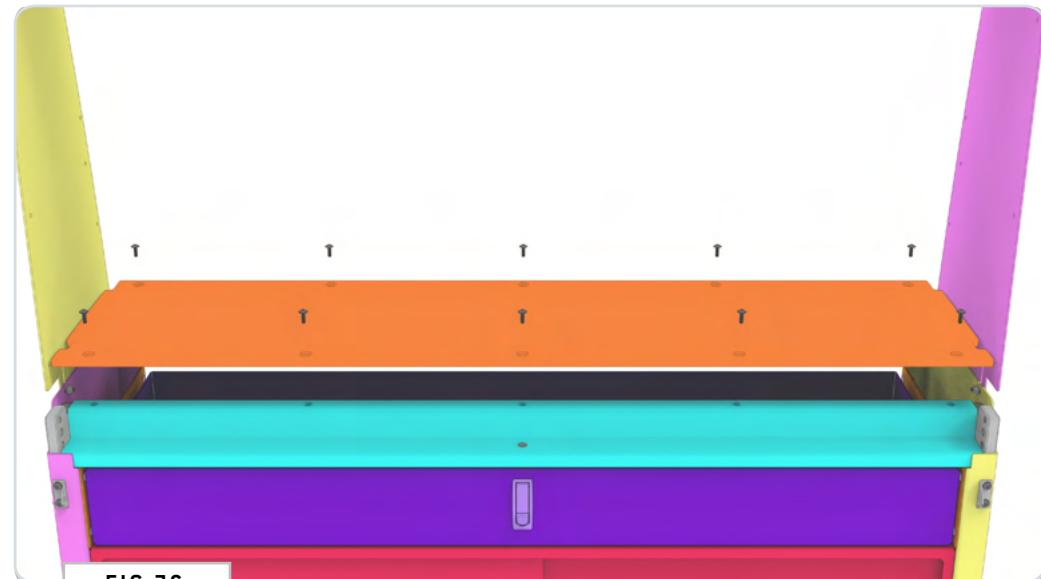

FIG 76
5.7 Install Hinge Side Cabinet Top: Attach the Hinge Side Cabinet Top to the pre-threaded holes of the Front and Rear Support of the Hinge Side Cabinet using (10) 1/4-20 x 0.75 Flanged Button Head Screws (FIG 76 +77).